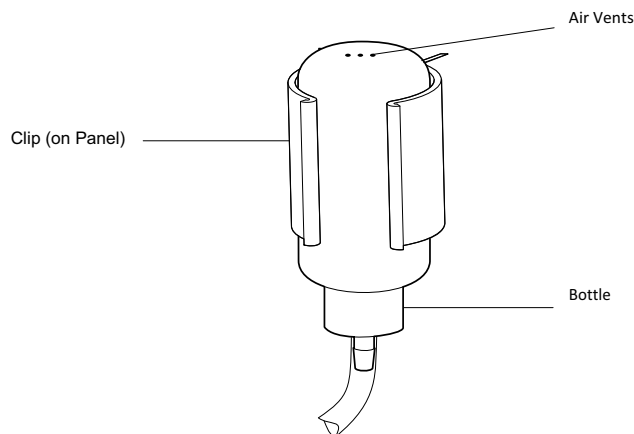

Figure 14: Reference Mounting Clip
8. Invert the electrolyte bottle and snap it into the clip. Refer to Figure 14. Use the pushpin supplied with the reference electrode to puncture three air vents on the bottom of the filling solution bottle.